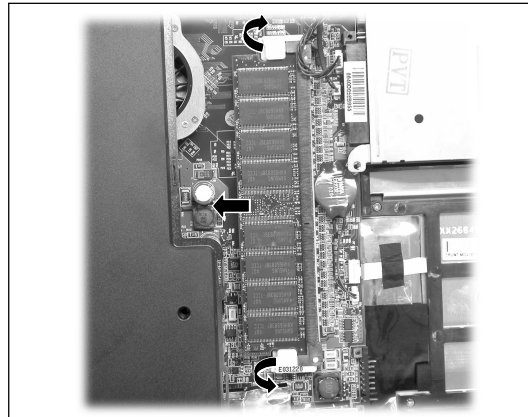

Figure 2-11 Remove the DIMM module
2. To remove the memory module, pull the retaining clips outwards to the unlocked and lift the DIMM module up. (Figure 2-11)